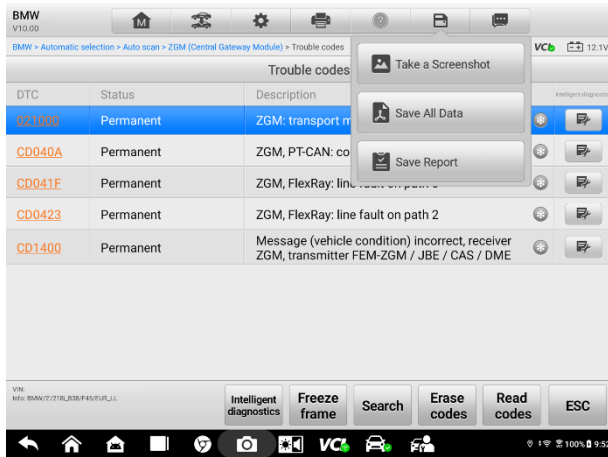

Figure 4-44 Read Codes Screen
- In the EV diagnostics screens, such as the Trouble Code screen (see Figure 4-44),